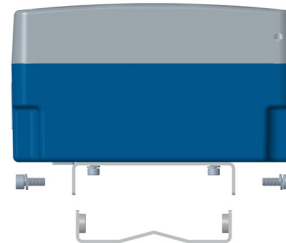

Figure 8: Secure the bracket
3. Align the transmitter's bracket with the mounted bracket. Use a 4 mm hex tool to secure the 4 provided screws from the sides through the mating holes. See Figure 8.